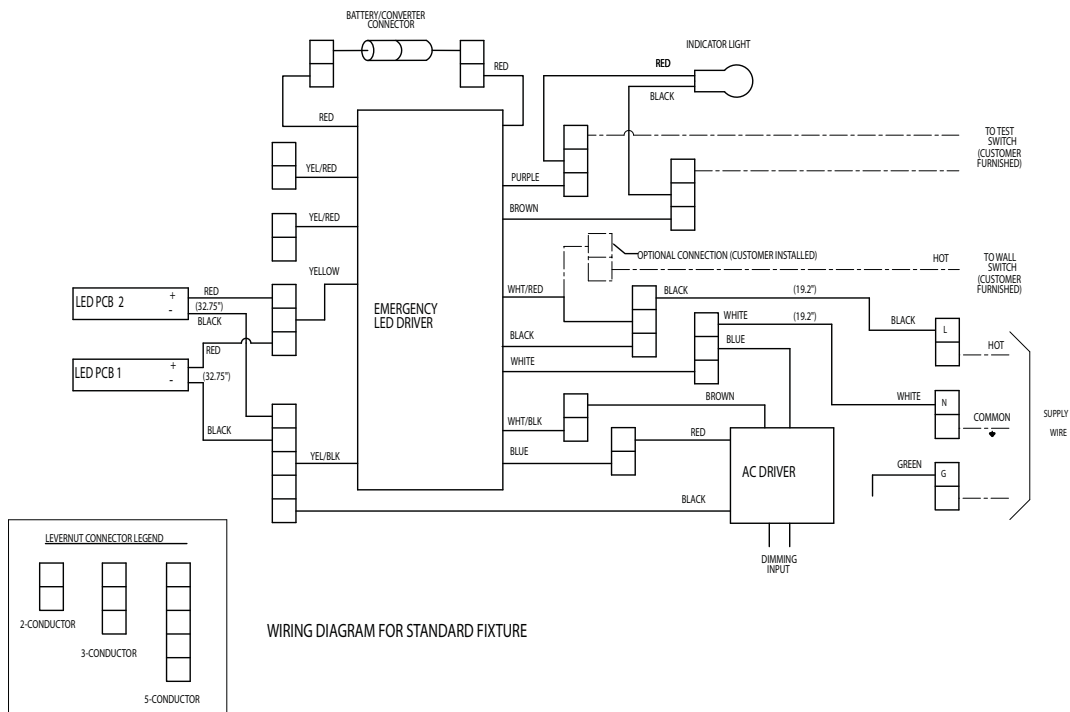

Figure 16
1. Open AC driver cover by loosening the four (4) #10-32 x 0.75" stainless steel cover screws (see Figure 13). All components in the fixture are pre-wired so only line in, neutral and ground need to be connected in the fixture to the lead wires (or terminals) per the wiring diagrams (see Figures 16 and 17) using methods that comply with all applicable codes. Terminate the equipment grounding conductor (green) first, the common (white) next, and finally, the line voltage (black) last. Tighten all electrical connections. **NOTE:** Standard openings are 3/4" NPT.
3. If no through feed (TF) or switch connections, proceed to Step 9.
4. For the TF suffix, use factory supplied fish line to pull through wire conductors for wiring to driver or to daisy chain multiple fixtures (maximum of five (5)). Refer to schematic for wiring. Only four (4) conductors maximum are allowed through the hub closest to the driver and four (4) conductors maximum are allowed through the hub farthest from the driver.
6. Remove the two (2) clamps (two screws per clamp) that secure the EM driver; remove the old EM driver.
8. Reinstall the new EM driver into the luminaire with the leads facing the AC driver, ensuring the EM driver is in direct contact with the luminaire housing and no wires are being pinched between the EM driver and the housing. Secure with two (2) clamps (2 screws per clamp) and tighten to 20 in.-lb. (2.3 N-m).
9. Reconnect the EM driver leads per wiring diagrams (see Figures 16 and 17) and tuck the wires and connectors neatly into the housing.